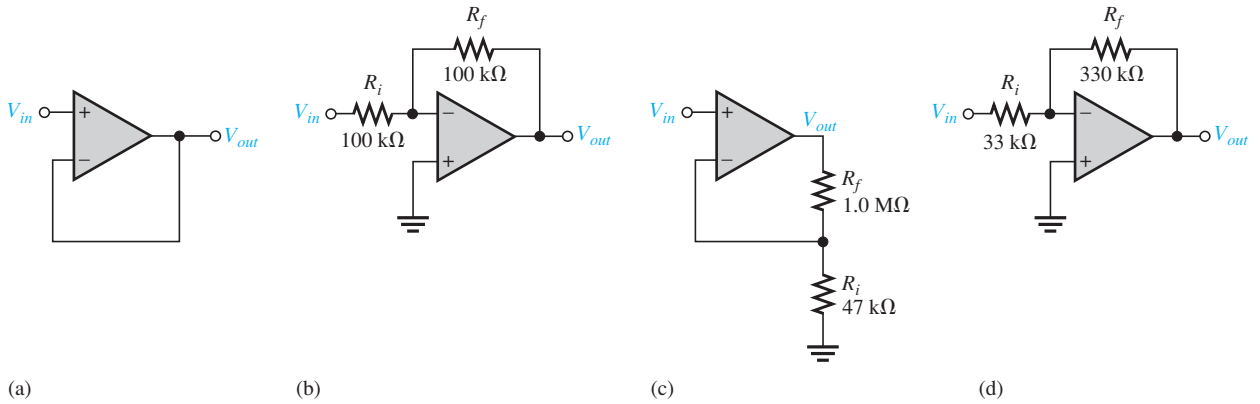

FIGURE 6–46
20. If a signal voltage of 10 mV rms is applied to each amplifier in Figure 6–46, what are the output voltages and what is their phase relationship with inputs?
21. Determine the approximate values for each of the following quantities in Figure 6–47.